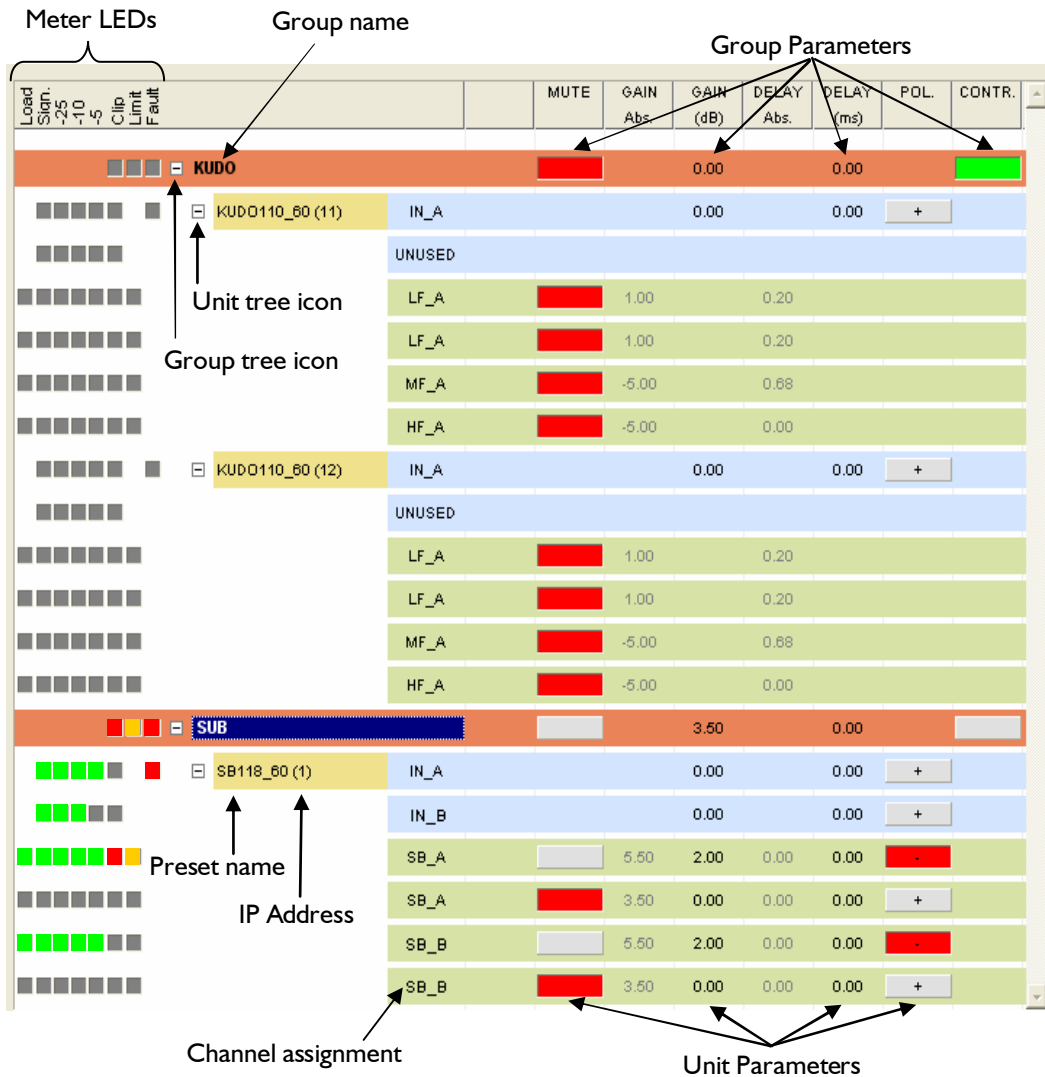

Figure 19: The Control window
The **Control window** (Figure 19) allows overall monitoring and control of the Current System through a removable tree.
↵ The user can display or hide information by alternatively clicking on the tree icons: by default only the maroon Group Bars are visible. Clicking on the Group tree icon adds the blue Unit Input Channel Bars, and clicking on the Unit tree icon adds the green Unit Output Channel Bars (Figure 19).
**LOAD** The green “**Load**” LED is lit when a speaker is connected at the corresponding Unit Output Channel and when the Output power reaches at least 2 W. Example: In Figure 19 a speaker is connected to the SB I 18\_60 Unit Output Channel #3.
**SIGNAL** The green “**Signal**” LED is lit when a signal is detected at the corresponding Unit Channel (Input or Output). Example: In Figure 19 a signal is detected at the SB I 18\_60 Unit Output Channel #3.
**dB** The green “**-25, -10, -5 dB**” LEDs are lit when the Unit Channel voltage (Input or Output) reaches respectively 25, 10, or 5 dB below the maximum level. Example: In Figure 19 the SB I 18\_60 Unit Output Channel #3 signal reaches 5dB below the maximum level.
**CLIP** The red “**Clip**” LED is lit when the Channel voltage (Input or Output) reaches the maximum level. Example: In Figure 19 the SB I 18\_60 Unit Output Channel #1 signal reaches the clip level. The “**Clip**” LED in the Group Bar is also lit.
Example: In Figure 19 the SB I 18\_60 Unit Output Channel #1 signal reaches the limiter threshold. The “**Limit**” LED in the Group Bar is also lit.
Example: In Figure 19 the SB I 18\_60 Unit is in faulty state (the LED located at the right of the A Input Channel LEDs is lit). The “**Fault**” LED in the Group Bar is also lit.
Example: In the Figure 19 all Output Channels of the KUDO Group are muted.
Example: In the Figure 19 all Output Channel Gain values of the SUB Group are increased by 3.5dB.
Example: In the Figure 19 the unit of IP Address #1 in the SUB Group has Output Channels 1 and 3 unmuted and Output Channels 2 and 4 muted.
Example: In the Figure 19 the Unit of IP Address #1 in the SUB Group has Output Channels 1 and 3 Gain value increased by 2dB. Thus, adding the Group (3.5dB) and Unit Gain (2dB) values results in a total of 5.5dB in the “GAIN Abs.” column.
Example: In the Figure 19 the Unit of IP Address #1 in the SUB Group has Output Channels 1 and 3 set at 180°, and the Output Channels 2 and 4 set at 0°.